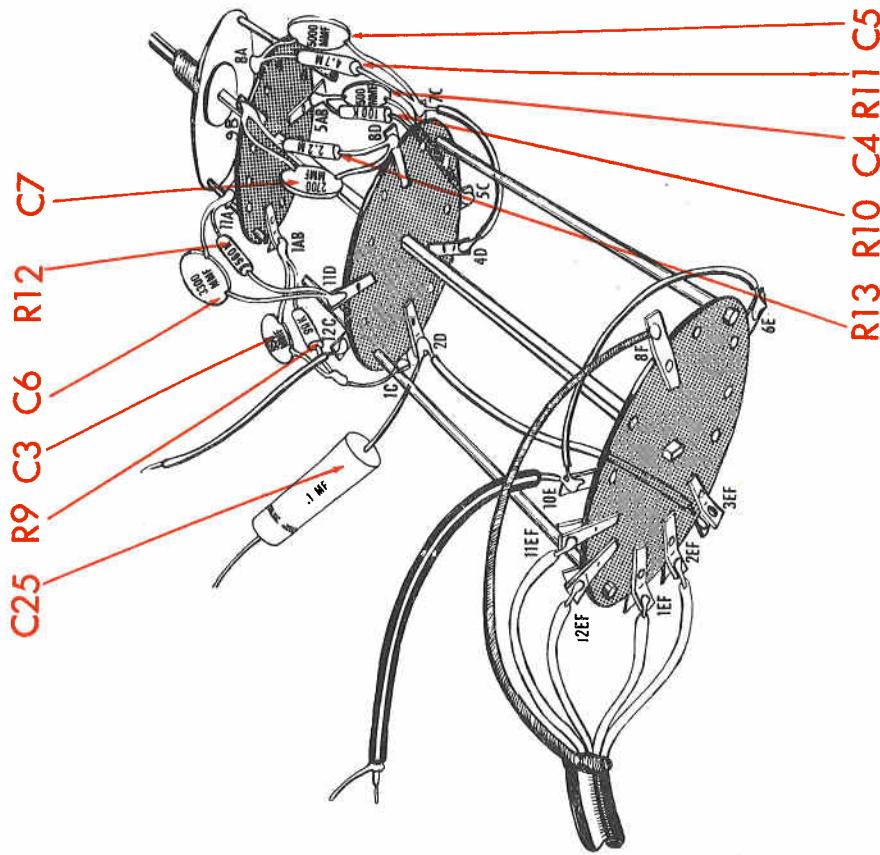

Fig. 2
1. ✓ Fig. 2. Connect an 850 mmf capacitor, C3, and a 90KΩ (white, black, orange, gold) 5% resistor, R9, from 1B (S) to 1C (S).
2. ✓ Fig. 2. Connect a 500mmf capacitor, C4, and a 100KΩ (brown, black, yellow, gold) 5% resistor, R10, from 5C (S) to 5B (S).
3. ✓ Fig. 2. Connect a 5000mmf 10% capacitor, C5, and a 4.7 meg (yellow, violet, green, gold) 5% resistor, R11, from 7C (C) to 8A (S).
4. ✓ Fig. 2. Connect a 2700 mmf capacitor, C7, and a 2.2 meg (red, red, green, gold) 5% resistor, R13, from 8D (S) to 9B (S).
5. ✓ Fig. 2. Connect a 3300 mmf capacitor, C6, and a 560KΩ (green, blue, yellow, gold) 5% resistor, R12, from 11D (S) to 11A (S).
6. ✓ Fig. 2. Connect a grey lead from 4D (S) to 7C (S).
7. ✓ Fig. 2. Connect a 2" green lead to 12C (S). Leave the other end free.
8. ✓ Fig. 2. Connect one end of a .1 mfd (brown, black, yellow, black, yellow) 20% capacitor, C25, to 2D (C). This lead should be only 1" long. Cut the other end to 1 1/2" leaving it free.
9. ✓ Fig. 2. Connect a 1 1/4" bare lead from 2D (S) to 3E (S).
10. ✓ Fig. 2. Connect a 2" grey lead from 10E (C) to 6E (S).
11. ✓ Fig. 2. Cut a 5 1/2" length of the 4 conductor shielded cable. On both ends, the outer insulation is stripped back 1". The spiral shield is unwound and each lead insulation stripped back 3/8". Connect the inner leads on one end of the cable, so that one lead connects to each of the following four switch terminals:
- (✓) shield to 8F (S)
- (✓) orange to 1F (S)
- (✓) yellow to 2F (S)
12. ✓ Fig. 2. Cut a 6" length of shielded cable. On one end, strip back the outer insulation 3/4", unwrap and cut the spiral shield and strip back the inner insulation 3/8". (Call this end "A".) On the other end (end "B") the outer insulation is stripped back 3/4", the spiral shield is unwrapped and twisted and the inner insulation stripped back 3/8". Connect the inner lead of end "A" to 10E (S).
17. (✗) Fig. 2. Connect a 33KΩ (orange, orange, orange, silver) resistor, R19 from R18-3 (S) to ground lug "D" (S) on tube socket XV3. Cut both leads to 3/4". X